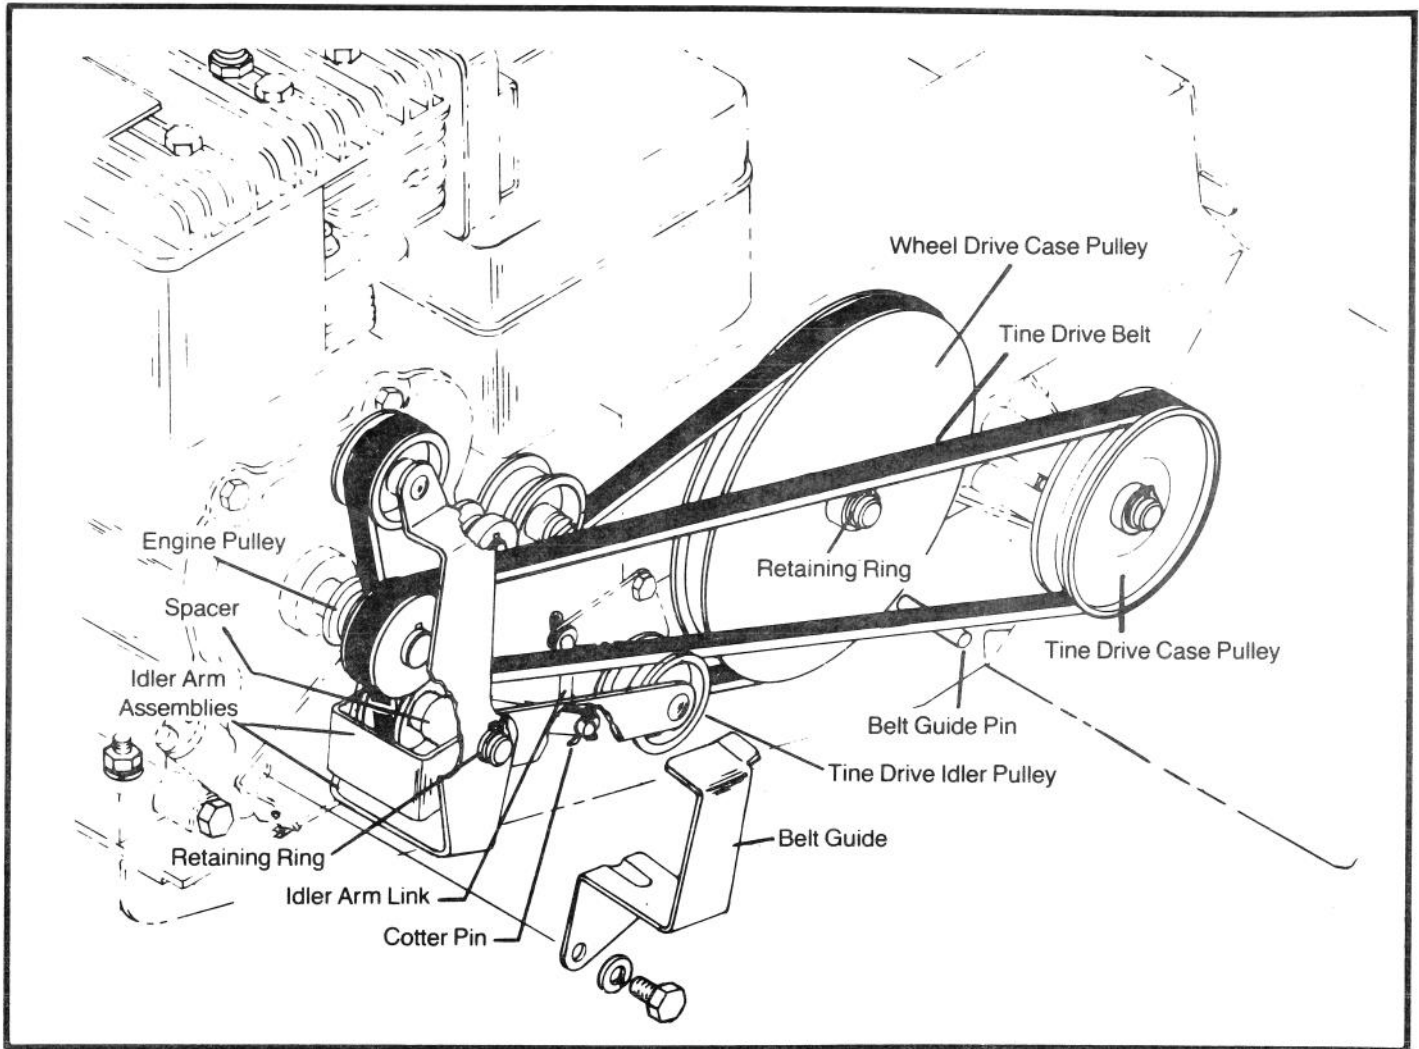

FIGURE 13
3. Remove the belt guide (Fig. 13).
6. To replace belt, reverse above procedure. Be sure belt is on top of tine drive idler pulley and the belt guide pin near the tine drive case pulley (Fig. 13).
2. Remove the retaining ring in the idler arm shaft (Fig. 13).
4. Remove wheel drive pulley by removing retaining ring and sliding pulley off shaft. (**NOTE:** Do not lose woodruff key in drive pulley shaft.) (Fig. 13).
5. Remove cotter pin from idler arm link (Fig. 13).
6. Slide idler arm assemblies out until the spacer can be slid out between the idler and idler arm. Remove belt. To replace belt, reverse above procedure. Be sure belt is turned inside out (wide side on pulleys) before installing in pulleys (Fig. 13).